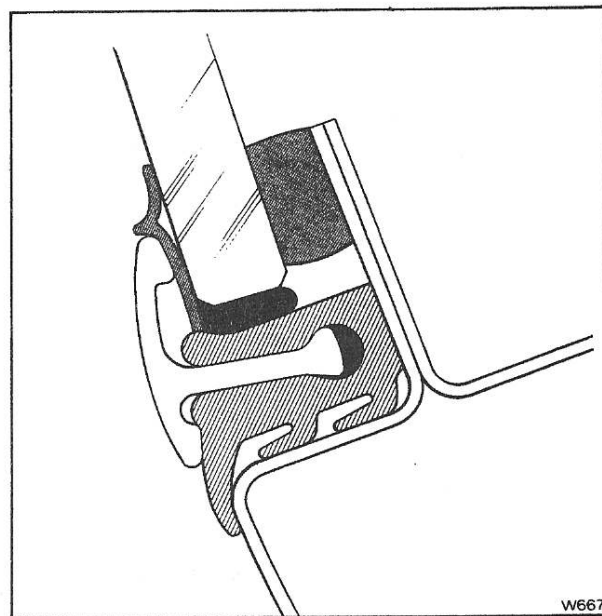

Fig. S156 Rear window sealing arrangement (Camargue)
6. Check that the assembly is seated evenly around the periphery of the glass then press it firmly into position. The outer lip of the moulded seal should seat evenly against the body panels, while the face seal should be firmly pressed against the window (see Fig. S156).